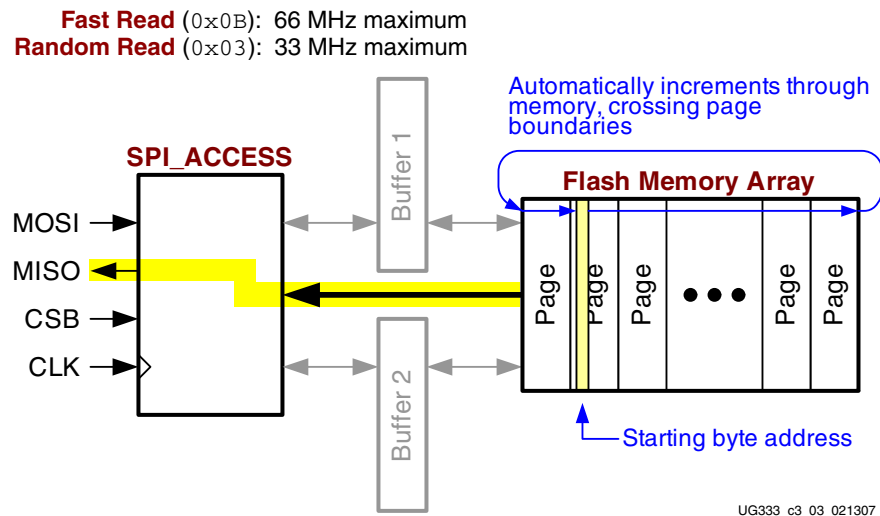

Figure 3-1: Fast Read and Random Read Commands
The Fast Read command sequentially reads a continuous stream of data directly from Flash memory bypassing the SRAM page buffers, as shown in Figure 3-1. The command specifies an initial starting byte address in the ISF memory. The ISF memory incorporates an internal address pointer that automatically increments on every clock cycle, allowing one continuous read operation without requiring additional address sequences.
- ◆ The starting byte location can be anywhere in the ISF memory array, located on any page, as shown in Figure 3-1.
- ◆ While CSB is Low, new data appears on the MISO output on every subsequent falling CLK edge. The ISF memory automatically increments the implied address counter through contiguous memory locations, as highlighted in Figure 3-1, regardless of the address mode.
Upon reaching the end of a memory page, the ISF memory continues reading at the beginning of the next page, as shown in Figure 3-1. There is no added delay when crossing a page boundary. After reading the last bit in the memory array, the ISF continues reading but returns to the beginning of the first page of memory. Again, there is no added delay when wrapping around from the end of the array to the beginning of the array. A Low-to-High transition on CSB terminates the read operation and the MISO output pin returns High.
Upon reaching the end of a memory page, the ISF memory continues reading at the beginning of the next page, as shown in Figure 3-1. There is no added delay when crossing a page boundary. After reading the last bit in the memory array, the ISF continues reading